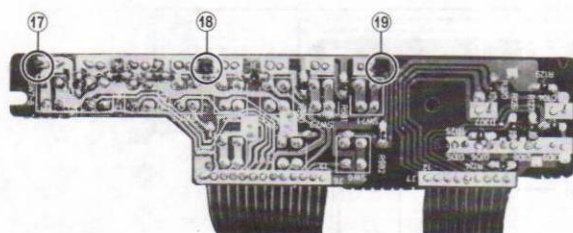

Fig. 4
4. Remove the adhesion (⑰ in Fig. 4) used to fasten the LED holder.
(1) Fix the LED holder (⑰,⑲ in Fig. 4) by adhesion.